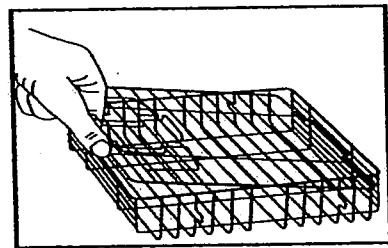

Figure 7
2. Squeeze the two metal tabs on the Cover of the Adjustable Flat Basket and remove. See Figure 7. Set Cover aside.